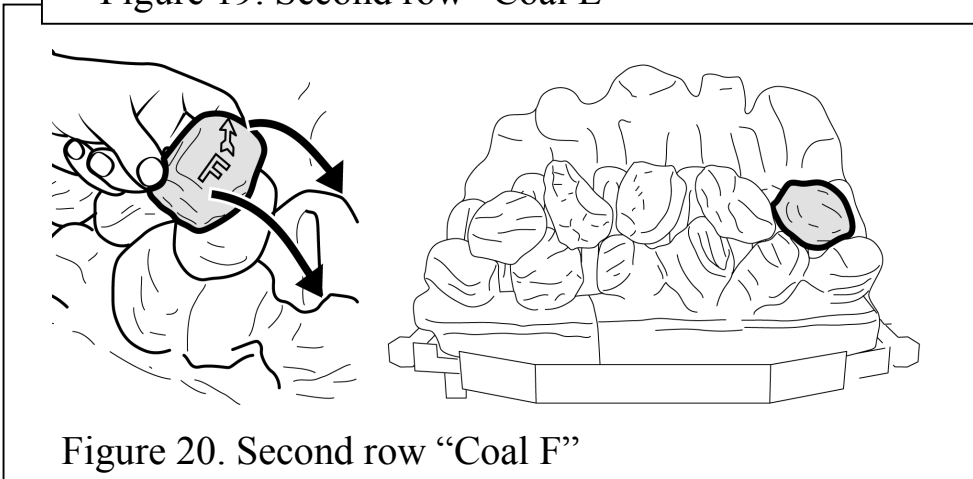

Figure 20. Second row "Coal F"
13. Hold coal 'F' upright with the arrow pointing to the top. Locate coal 'F' as shown in figure 20.